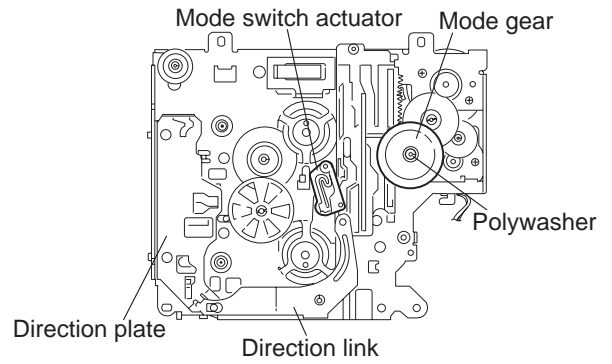

Fig.28
2.2.15 Removing the mode gear (See Fig.28 and 31)
- (1) Remove the polywasher on the bottom and pull out the mode gear.
2.2.16 Removing the mode switch actuator (See Fig.28, 29 and 31)